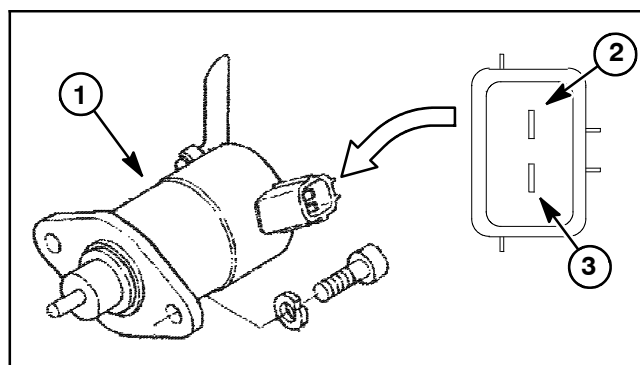

Figure 33
2. Using a digital multimeter, touch one test lead to the pull coil terminal and the other test lead to the fuel stop solenoid frame (ground) (Fig. 33). The resistance of the pull coil should be less than 1 ohm (but not zero).
3. Using a digital multimeter, touch one test lead to the hold coil terminal and the other test lead to the fuel stop solenoid frame (ground) (Fig. 33). The resistance of the hold coil should be approximately 15 ohms.